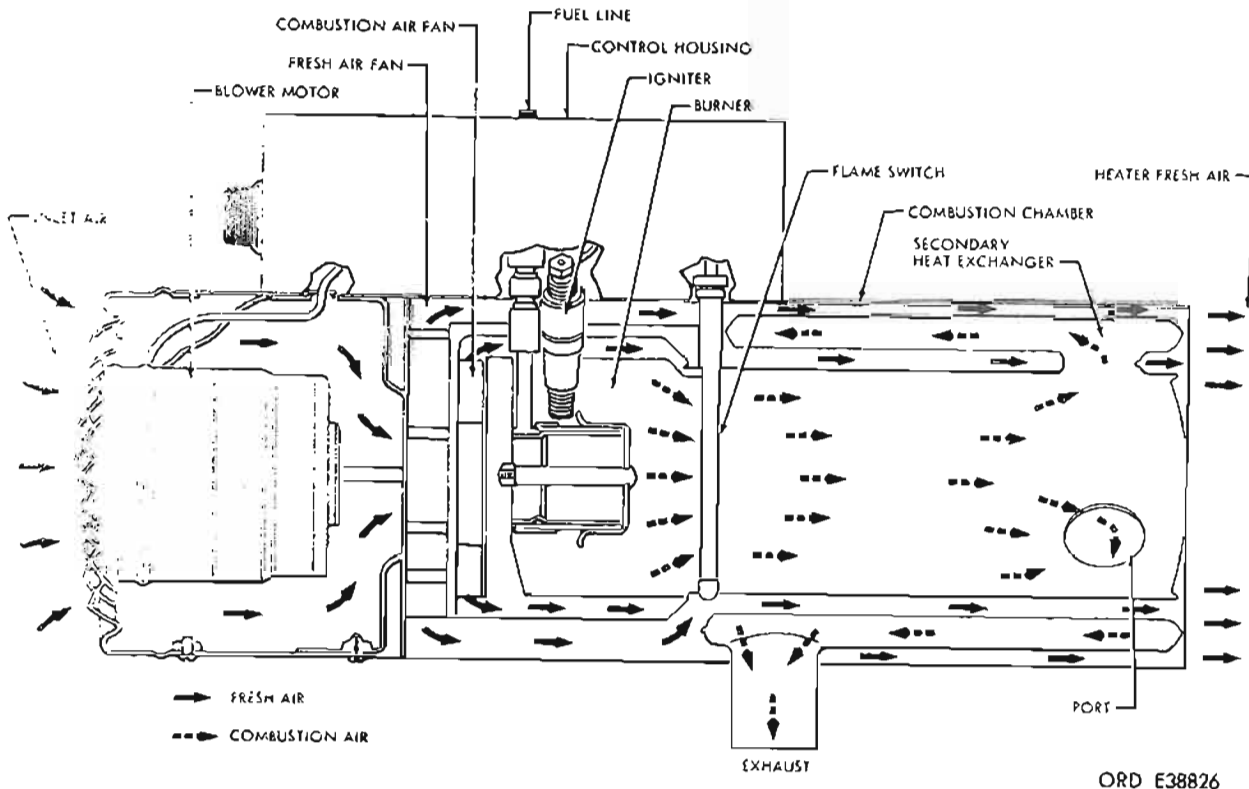

Figure 18-51. Flow system—side view (11092508 heater).
(1) *Combustion and ventilating air system.* The air system consists of the blower motor, fan, and air passages through and around the combustion chamber. The blower motor supplies both combustion air and fresh air for the heater. The motor has a single shaft and operates a radial, backward-tip fan. Air is drawn into the screened end of the heater (fig. 18-51), passes over the blower motor (for cooling), and enters the centrifugal backward-tip fan. The fan, consisting of a larger fresh air impeller and smaller combustion air impeller, distributes the intake air to the two heater air